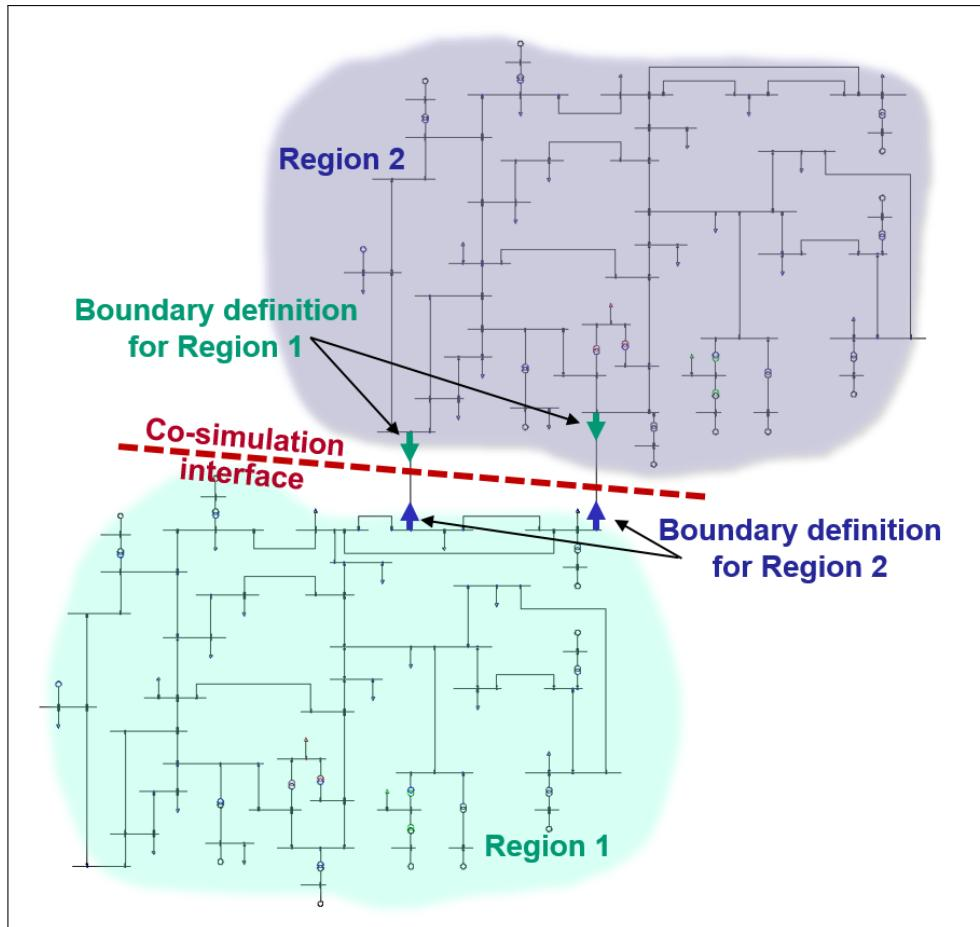
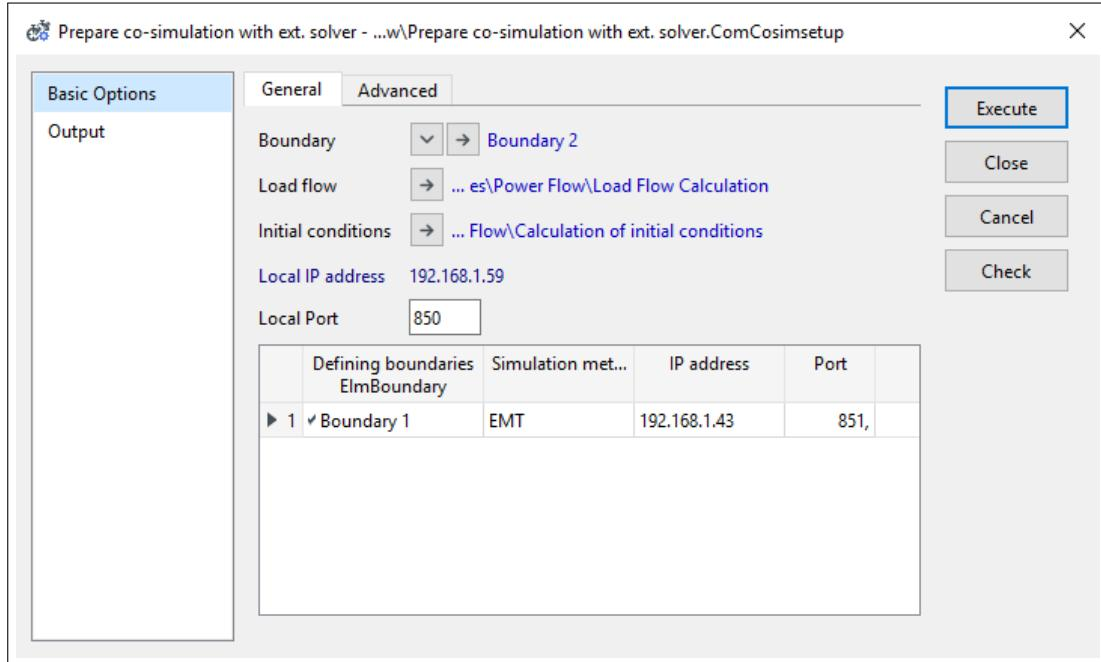

Figure 29.10.3: Co-simulation example for a two areas interconnected power system
Figure 29.11.3: Co-simulation with external solver - configuration options (example)
- **Boundary objects (ElmBoundary)** are used to define the co-simulated *regions* and thereby the co-simulation interface. The interior region of each *boundary* needs to contain all elements belonging to the specific co-simulation *region*. Boundaries need to overlap on the line element(s) which represent the co-simulation border. As an example, Figure 29.10.3 shows a simple two area power system interconnected via two AC lines, a candidate for a co-simulation based on two *regions*. For this setup, the two AC lines need to be contained within both boundary objects (overlapping elements), in order to correctly identify the co-simulation interface. In this example, two boundary objects need to be defined; then the *boundaries* are assigned to individual *regions* within the *Initial conditions for co-simulation*.
On *PowerFactory* side, a project can be prepared for co-simulation with a third party solver by using the command *Prepare co-simulation with ext. solver* (*ComCosimsetup*). An example of a configuration setup based on a two area power system (refer to figure 29.10.3) is shown in figure 29.11.3.